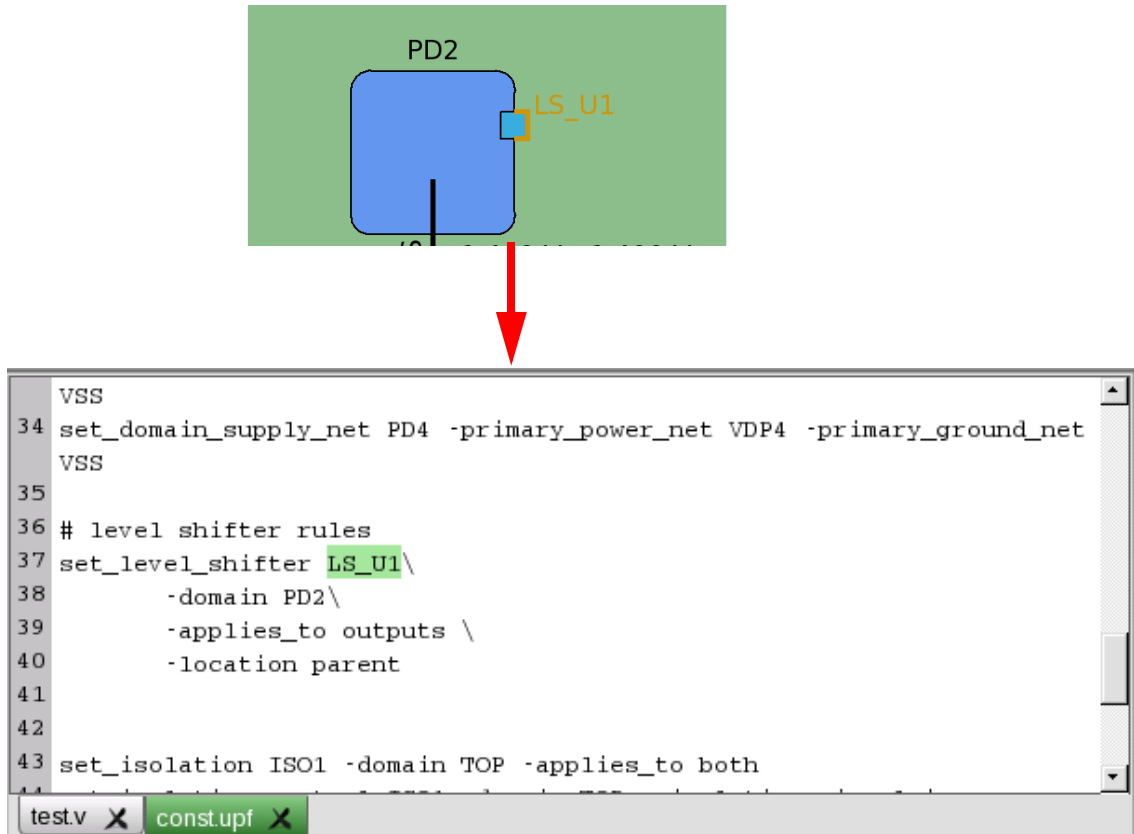

FIGURE 225. Schematic to UPF Referencing
- Domain or strategy selected in PIH Schematic is back-referenced to corresponding command in the UPF file as shown in Figure 225: